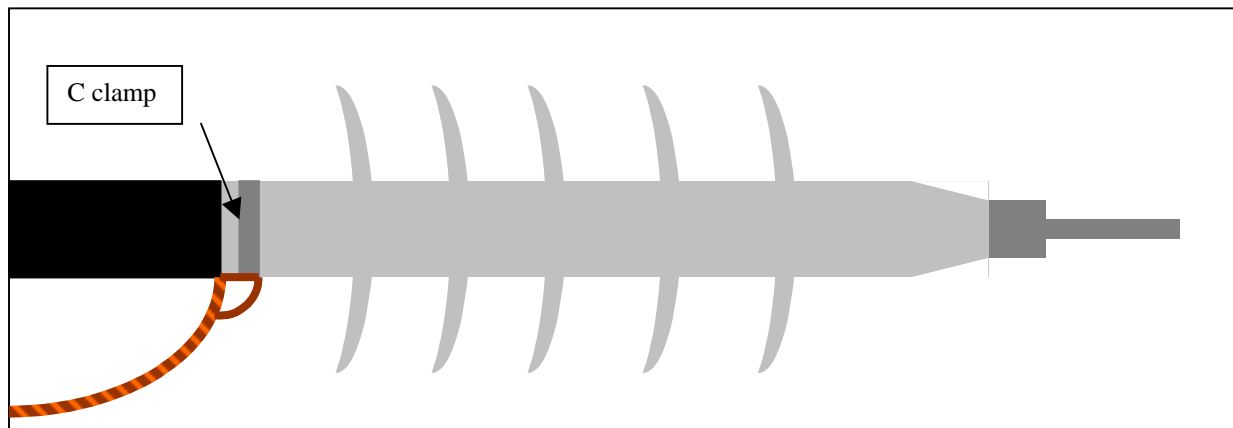

Figure 7, Completed Termination with C Clamp in Place
- Place the C clamp around base of the termination and run two drip wires through the open ends. Then twist together tightly and blend into the other concentric neutral wires forming a tight bundle (Figure 7).